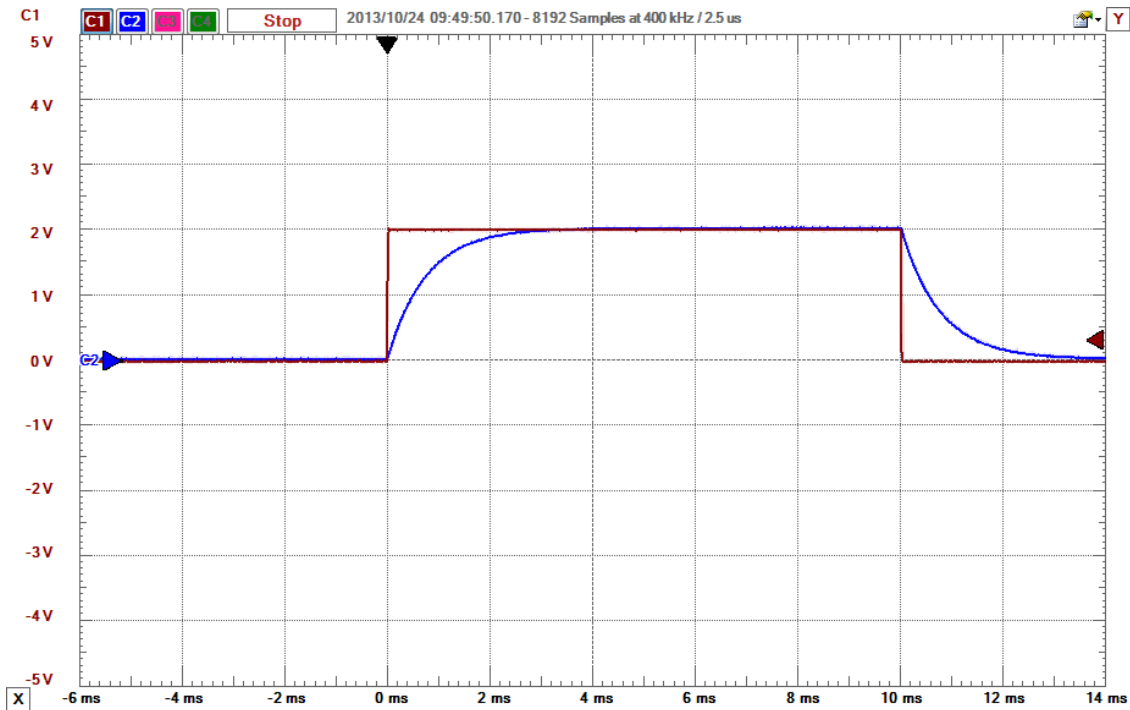

**Figure 5.** Prefilter, differential amplifier, and proportional controller.
7) Connect the first three stages of your system, as shown in Figure 5. The output should match the input. If it does not, modify the variable resistor on the controller. Be sure to remove the load resistor before you go on.